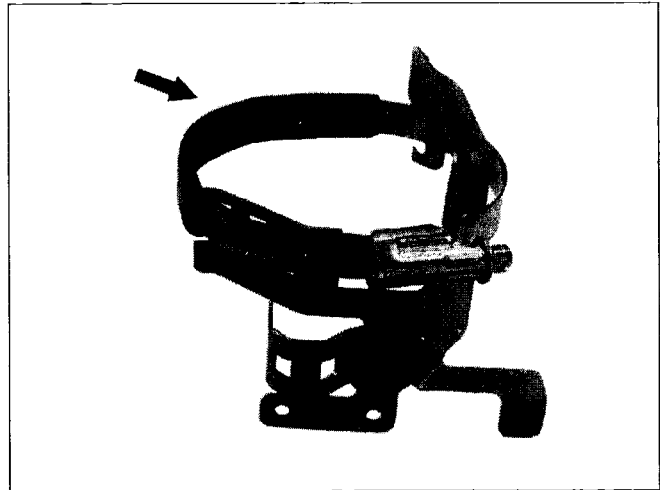

Figure 17
16. Install clamp-on mounting bracket (B, Figure 17) if bores are not present in hydraulic unit:
Ensure sheathing (arrow) on mounting bracket clamp is positioned as shown in Figure 17.